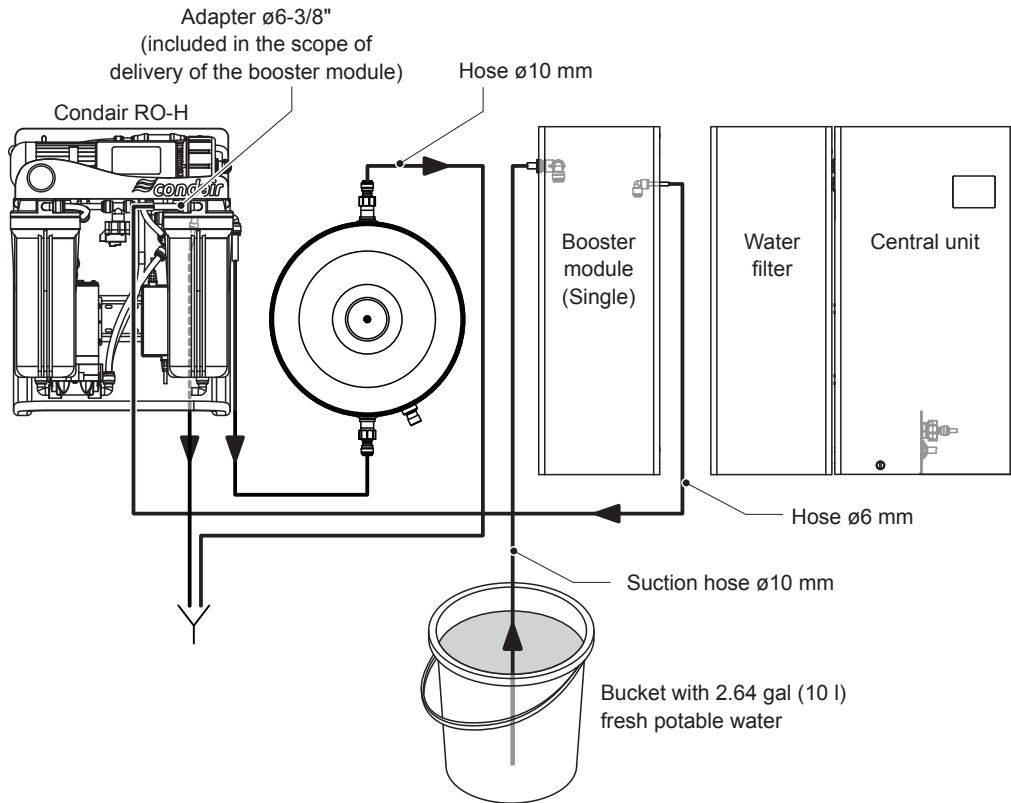

Fig. 61: Schematic diagram of the hose layout for flushing of the Condair RO-HB for MN single systems
14. After the reaction time has lapsed, immerse the outlet hose of the flow tank $\varnothing 0.39"$ ($\varnothing 10$ mm) in the drain funnel on the building side and the suction hose in the bucket with the fresh potable water (see Fig. 61 or Fig. 62).